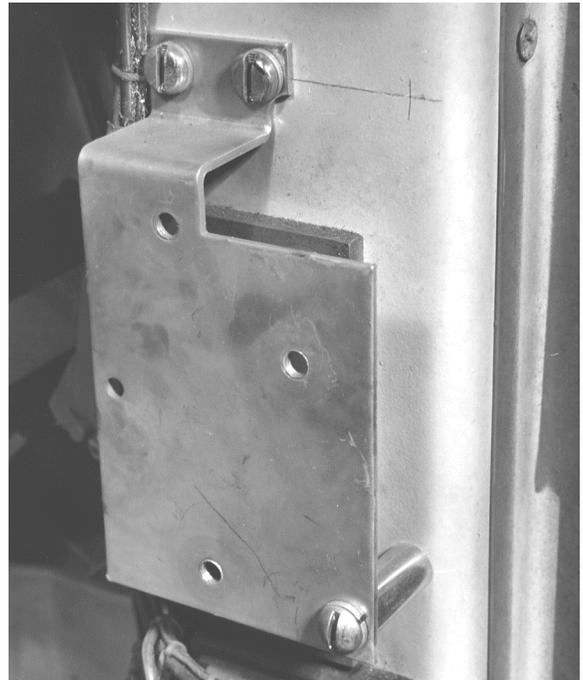

Figure 12. Trip unit mounting plate attached to the breaker front channel.
2. Attach the new mounting plate, as shown in Figure 12, with two short $\frac{1}{4}$ -20 screws and lock washers on the top and the single long $\frac{1}{4}$ -20 screw and lock washer on the bottom. Be sure to insert the spacer between the mounting plate and the breaker channel, as shown.